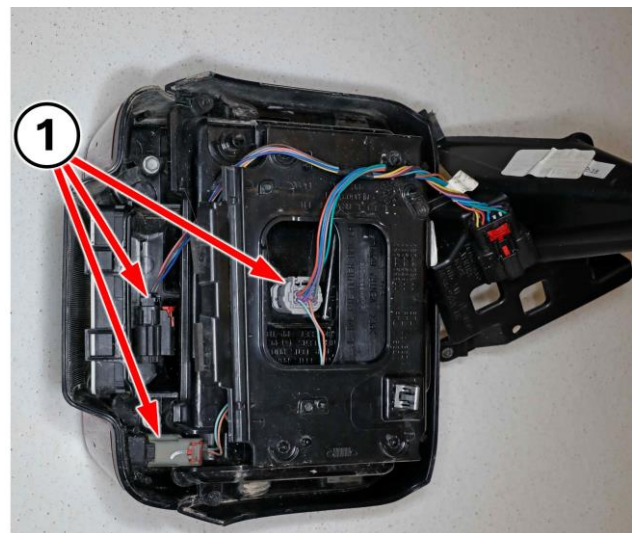

Figure 10 – Lamp Electrical Connectors
7. **OLD lamp:** Disconnect all three electrical connectors (1) from the lamp and BSM module (Figure 10).